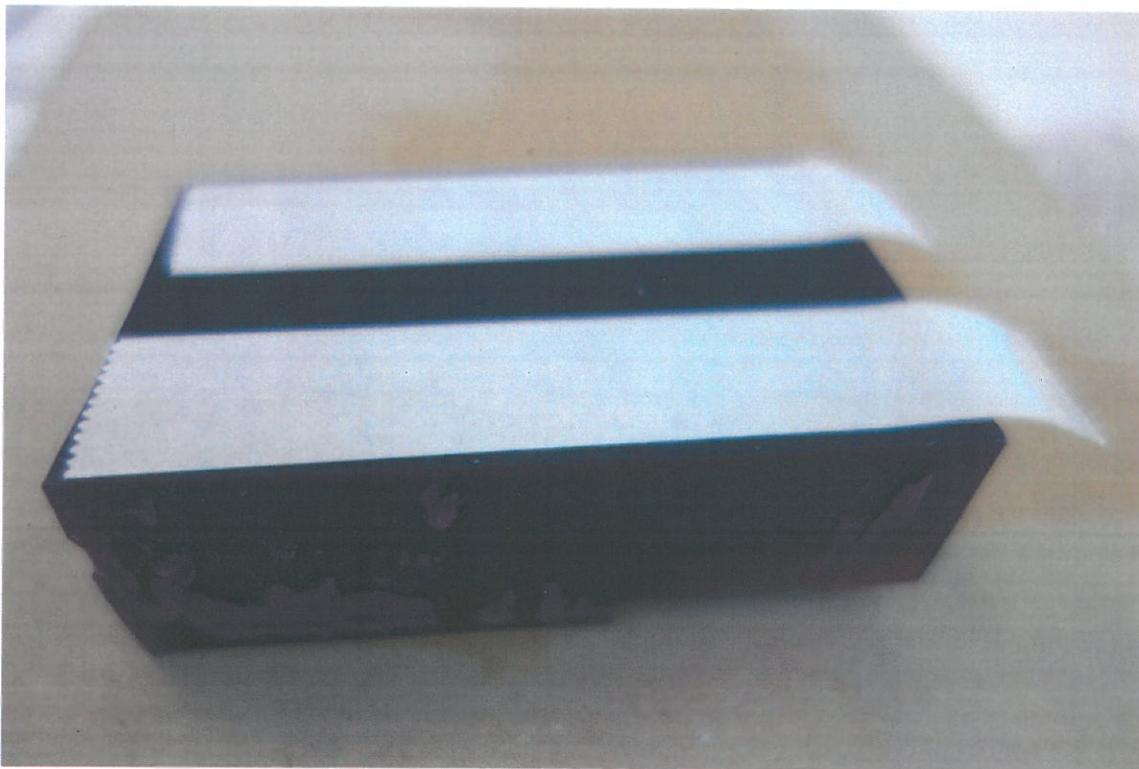

Figure 2: Material with Double-Sided Tape
1. TAPE the bottom of the material with double-sided tape (Figure 2).